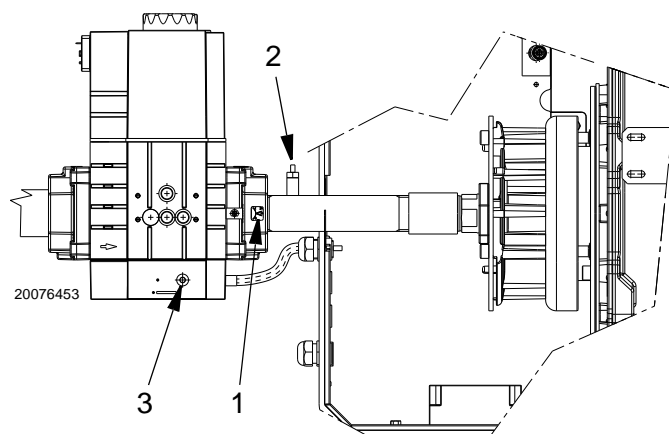

Fig. 7
The diagrams allow you to set the power output either using the number of fan revs or using the pressure downstream of the gas valve (Fig. 7 on page 13).
* Tighten screw 1)(Fig. 7) fully home towards “-” mark, then open it towards “+” mark, following the indications provided in Tab. F.
Key (Fig. 7)